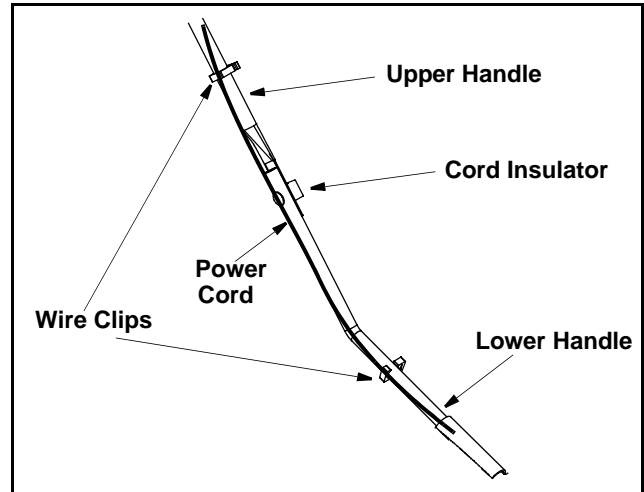

Figure 5
- Install wire clips and route the power cord through them as shown in Figure 5.